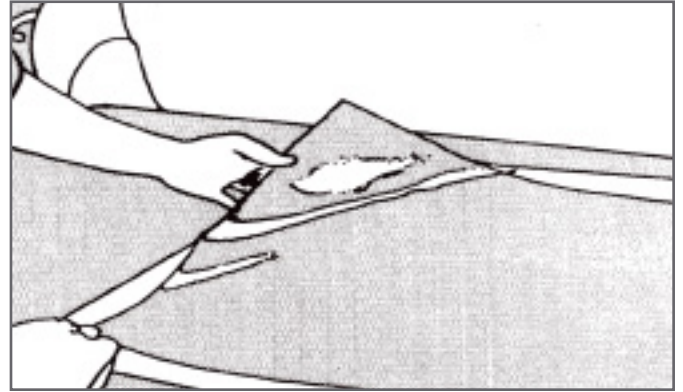

Fig 2: Lifting and turning over the film
7. Lift and turn over the film, adhesive side toward the wetted application surface and align any registration marks. See Figure 2.